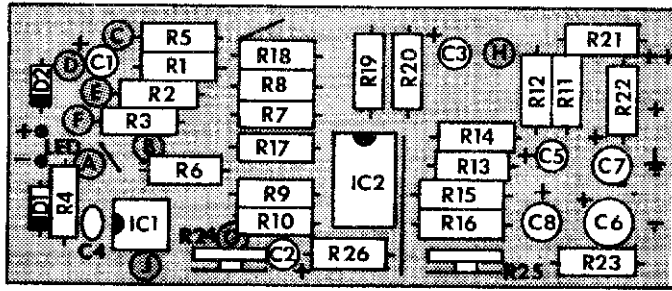

Figure 2
Solder each of the fixed value resistors in place following the parts placement designators printed on the circuit board and the assembly drawing figure 2. Note that the fixed value resistors are non-polarized and may be mounted with either of their two leads in either of the holes provided. Cinch the resistors in place prior to soldering by putting their leads through the holes and pushing them firmly against the board; on the conductor side of the board bend the leads outward to about a 45° angle. Clip off each lead flush with the solder joint as the joint is made. Save the lead clippings for use as jumpers in later steps.
Install the diodes D1 and D2. Note that these parts are polarized and must be properly oriented in order to operate properly. Polarization of the diodes is indicated by a colored band on one end of the case. Install as shown in figure 2. The physical appearance of the device is related to the schematic symbol used on the circuit board parts placement designators in figure 3.
- () Using the excess leads clipped from resistor installation, form and install the three wire jumpers indicated by the solid lines printed on the circuit board and shown in the parts placement diagram figure 2.